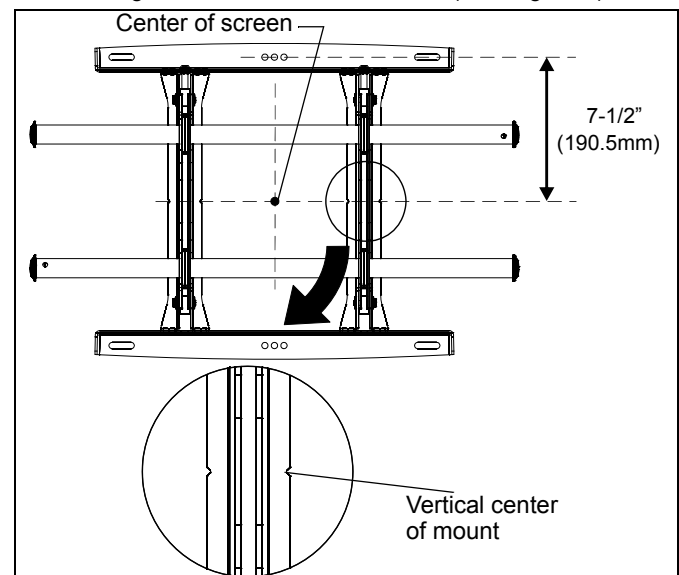

Figure 5
3. Line up the notches on mount (R) with center of screen marking to determine vertical center. (See Figure 5)